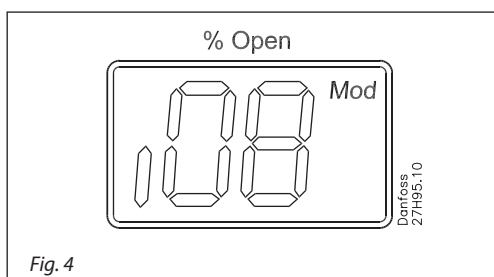

Fig. 4
- Gives access to the **Parameter list** by keeping the push button activated for 2 seconds. A **Parameter list** example is shown below (parameter **p08**, fig. 4).